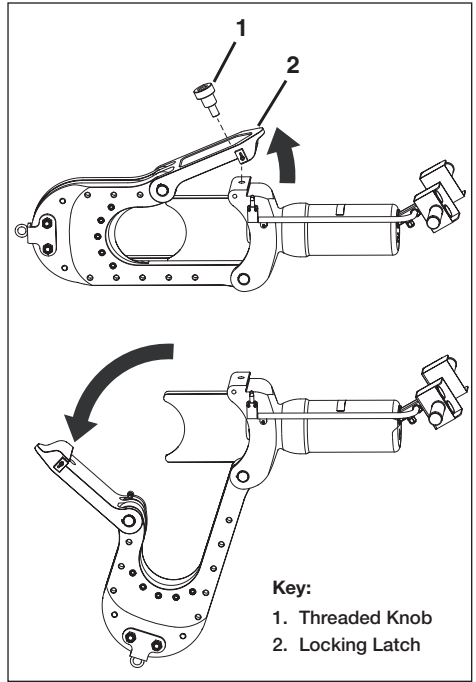

Figure 4, Opening the Cutting Head
To open the cutting head: unscrew the threaded knob (Figure 4, item 1). Lift the locking latch (Figure 4, item 2) and swing it up and away from the cutter body. Then, swing the cutting head away from the cutter body as shown in Figure 4.